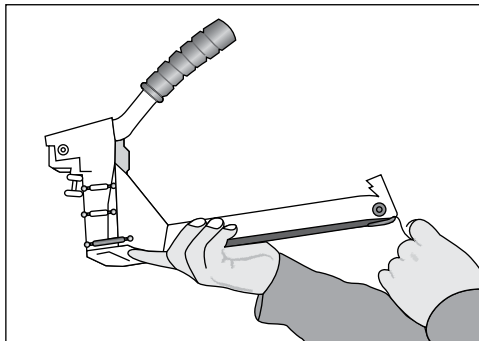

Figure 1
1. Pull the pusher back until it stops on pusher pivots. Rotate pusher to position. (See Figure 1)